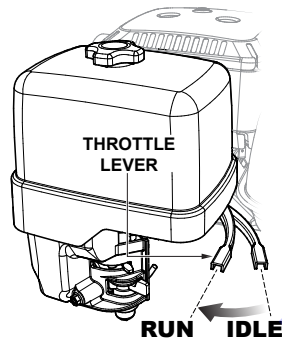

Figure 16. Throttle Lever (Run)
9. To begin pumping, place the throttle lever (See Figure 16) in the **RUN** position. If water is not flowing out of the discharge port, turn off the engine and check for and clear any obstructions within the suction hose.
3. Place the fuel shut-off lever (See Figure 16) in the **OFF** position